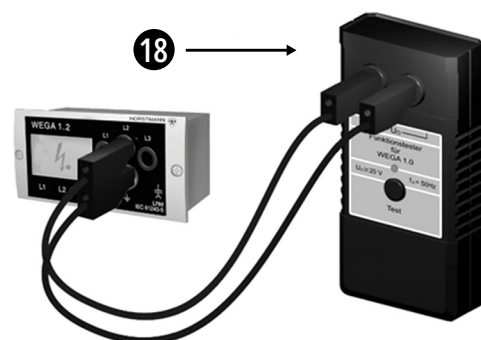

Figure 4-9: Using the tester
5. When the arrows and dots are not visible, check the voltage detection operation using the voltage detection tester (18). See figure 4-9.